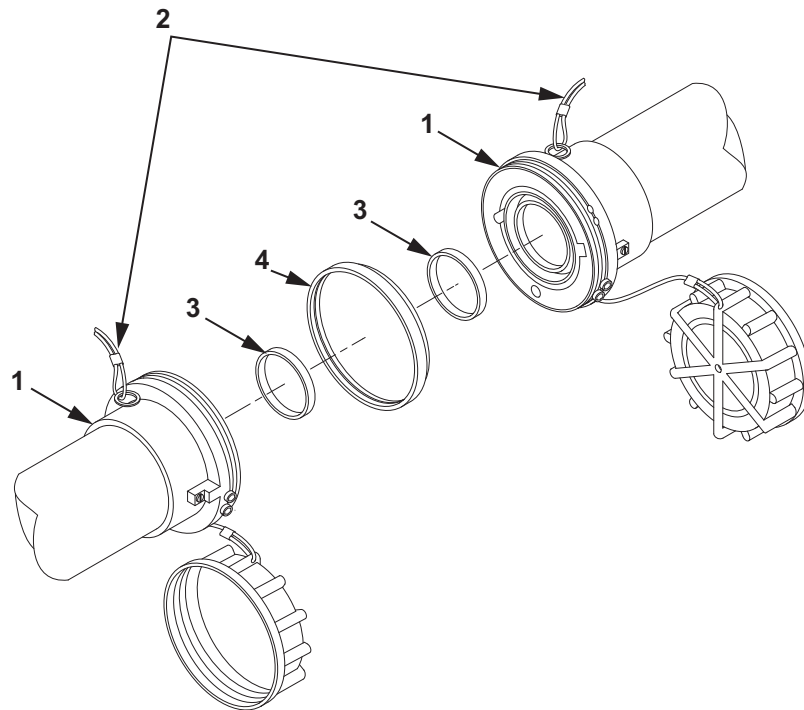

Figure 2. Non-Valved Quick Disconnect Coupling Halves Gasket Removal.
- b. Remove bumper (Figure 2, Item 4).
- c. Remove and discard defective gaskets (Figure 2, Item 3).
- a. Install new gaskets (Figure 2, Item 3) on coupling half (Figure 2, Item 1).
- b. Install bumper (Figure 2, Item 4).
- c. Align quick disconnect coupling halves (Figure 2, Item 1).
- d. Rotate the one quick disconnect coupling half (Figure 2, Item 1) clockwise to connect quick disconnect coupling halves (Figure 2, Item 1).
- e. Ensure quick disconnect coupling halves (Figure 2, Item 1) are securely connected.